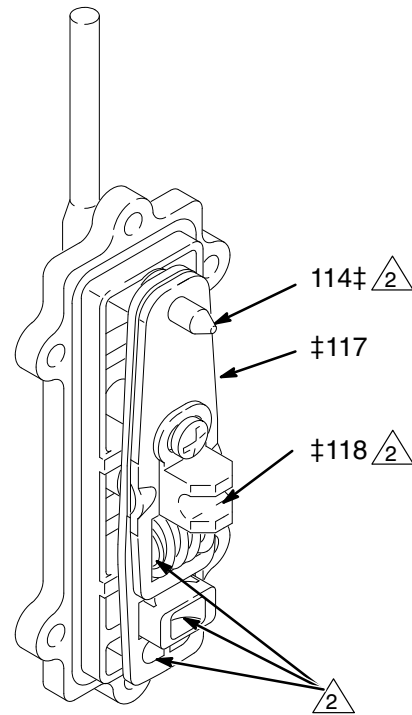

Fig. 3
2. Unscrew the six mounting screws (211) and remove the air valve (215). See Fig. 3.
11. Make certain the o-ring (101†) is in place on the air valve (215).
12. Apply grease (121†) where shown in Fig. 3.
13. Align the new air valve assembly so the reset screw (114†) is at the bottom. Check that the pilot pins (241) inside the pump housing (203) give clearance for the actuator link (117†). Install the six screws (211) and torque oppositely and evenly to 20 to 25 in-lb (2.3 to 2.8 N.m).